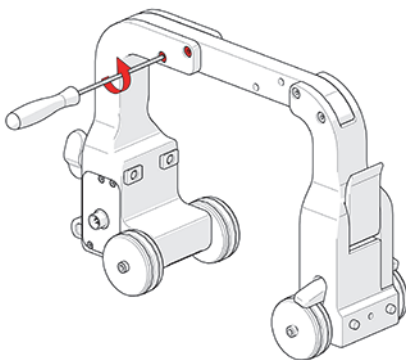

Figure 3-3 Remove shoulder screws
1. Use the supplied 2 mm hex driver to remove the two shoulder screws (see Figure 3-3 on page 42).